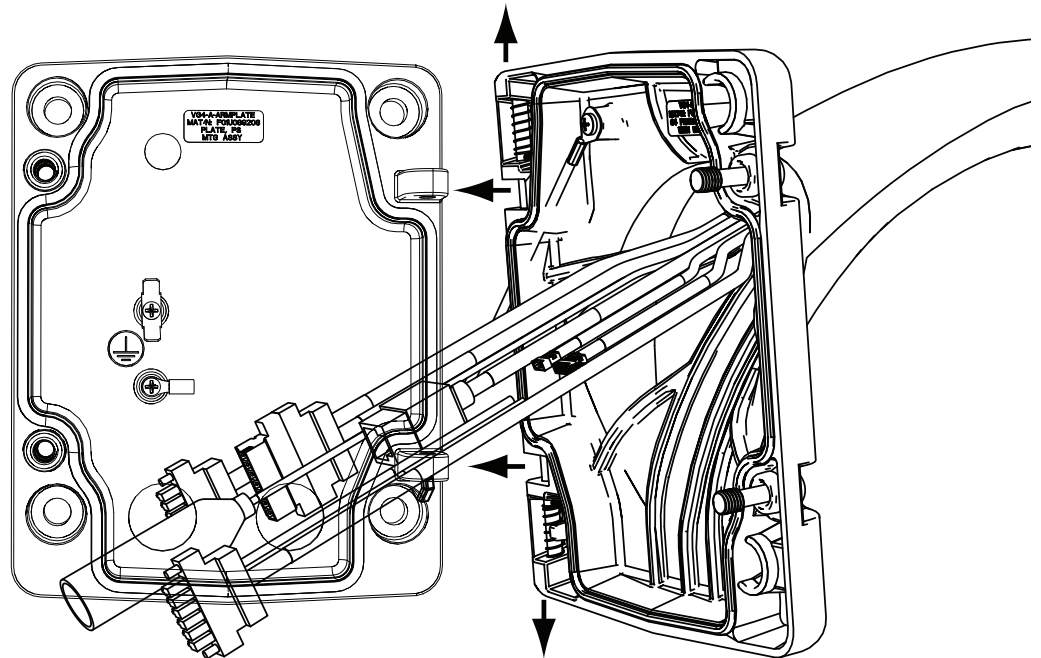

Figure 2.12 Connect Pendant Arm to Mounting Plate
3. While continuing to hold the top hinge pin open, align the top and bottom hinges of the Pendant Arm to their mating points on the Mounting Plate. See *Figure 2.12*, above, for an illustration.